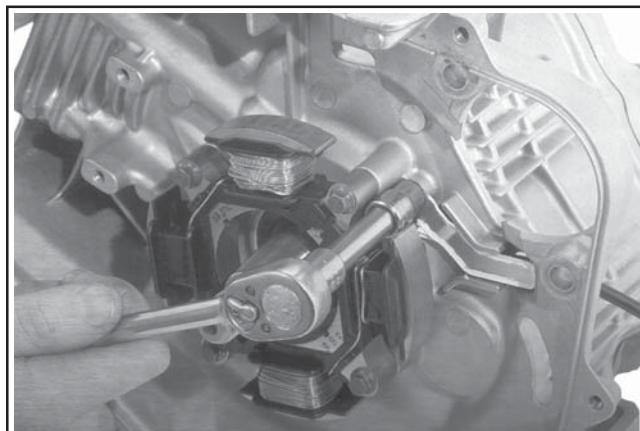

Figure 11-56. Installing Shield.
**Torque screw to 10 N·m (88.5 in. lb.).** See Figure 11-56.